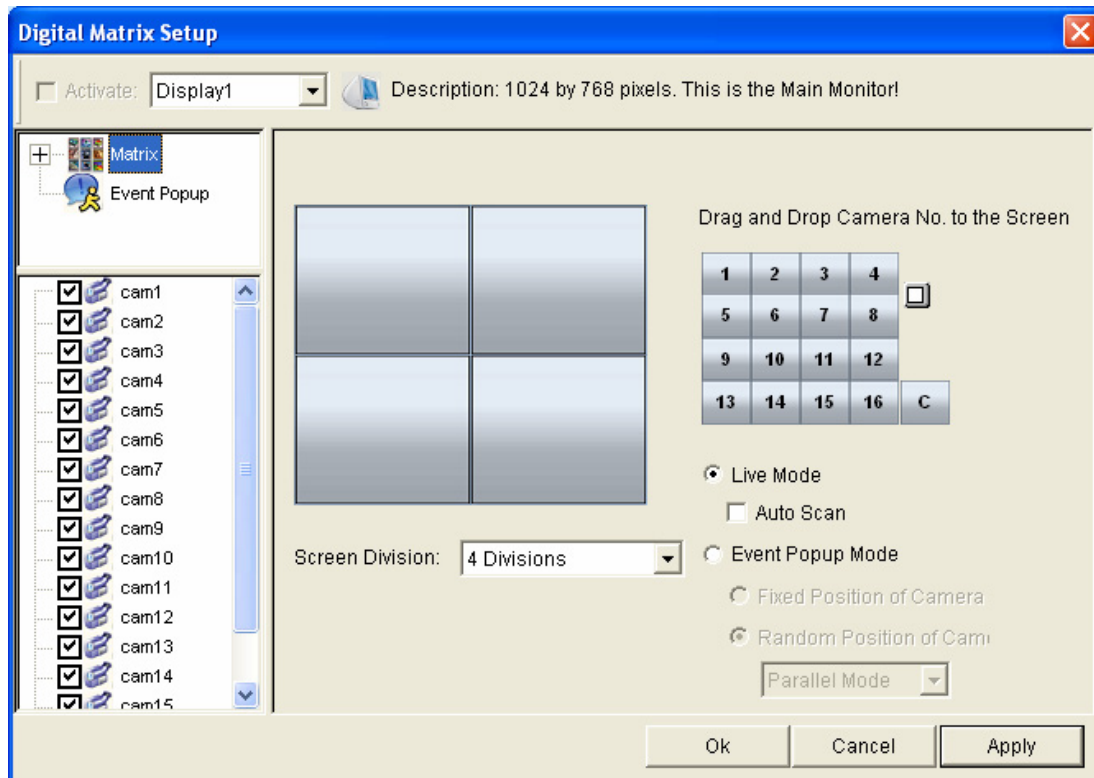

Figure 11-89
9. In the upper-left column, click the **Matrix** icon and return to Figure 11-89.
4. After above settings, click the **Matrix** icon and return to Figure 11-89.
4. Click the **Matrix** icon and return to Figure 11-89. Ensure the **Live Mode** option is selected.